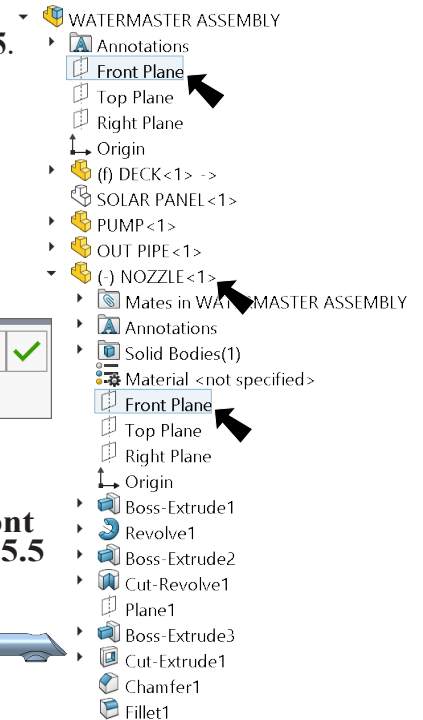

Fig. 25
Step 4. Expand the flyout Feature Manager design tree, click **Front Plane** . Expand **NOZZLE** and click **Front Plane** , Fig. 25.